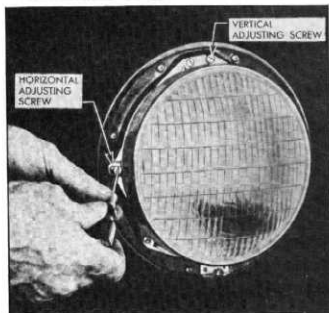

Fig. 61—Removing Sealed Beam Retaining Ring Screws
- Remove the three screws attaching retaining ring (fig. 61). DO NOT DISTURB THE AIMING SCREWS.